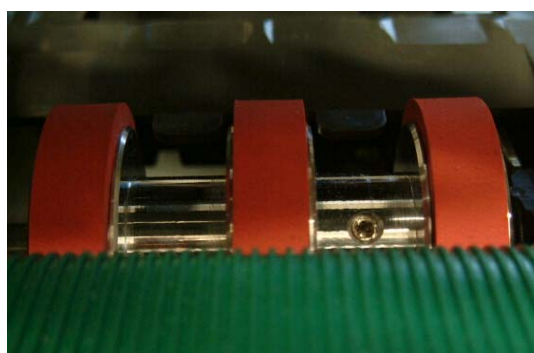

Fig.72
- If the gap is uneven loosen the setscrew and slide the Introduction Roller to the left or right then tighten the setscrew. (Fig.72)